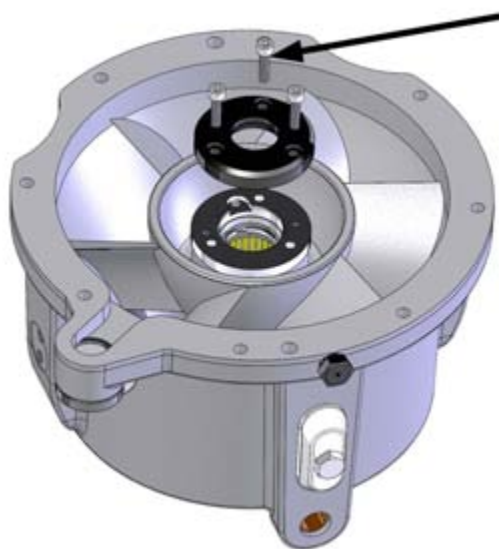

Figure 27. Rear bearing housing screws
2. The rear bearing housing is attached to the stator with three screws (figure 27). Undo the screws and remove the plastic cover.